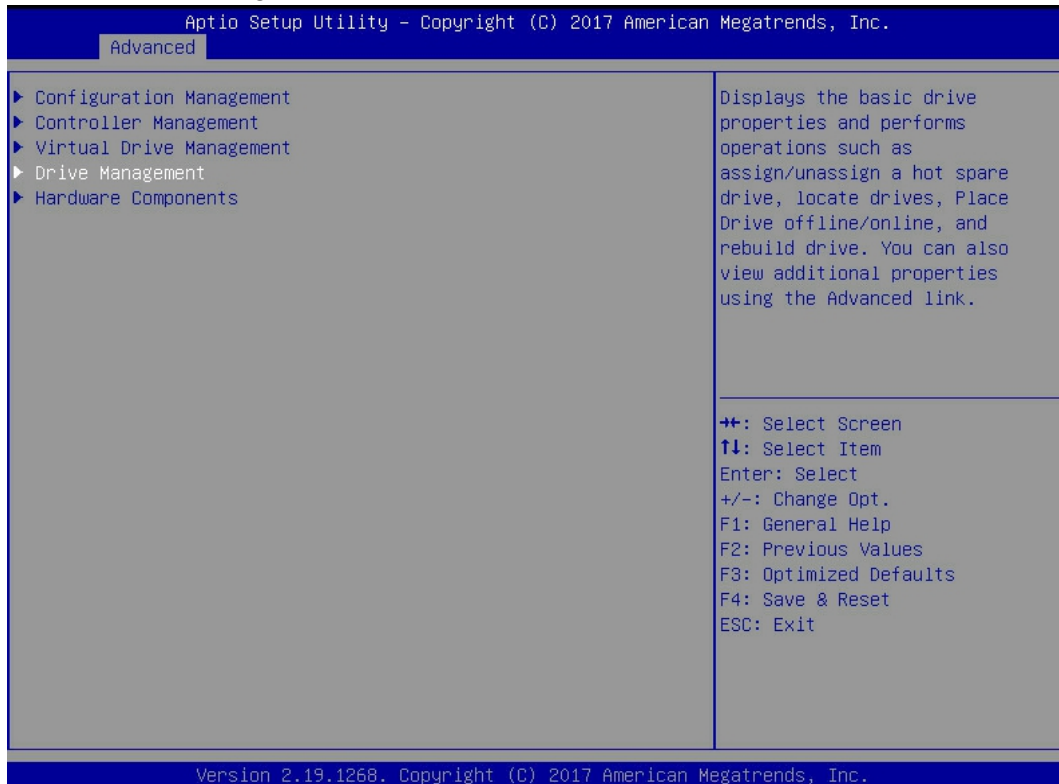

Figure 6-71
a) As shown in figure 6-71, select drive management in the raid card configuration interface and press enter.
✧ Figure 6-71 raid card configuration interface